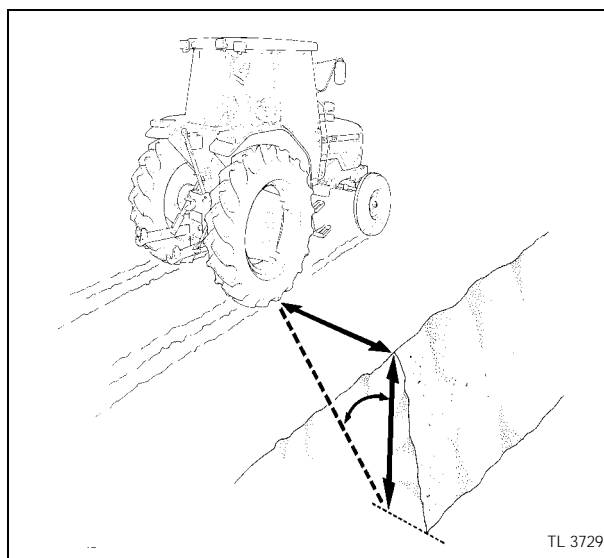

Fig. 19
- Avoid crossing steep slopes if possible. If you must do so, avoid any holes or depressions on the downhill side. Avoid any stumps, rocks, bumps or raised areas on the uphill side. When operating near ditches and banks, always keep your tractor behind the shear line (A, Fig. 19). Avoid ditches, embankments and river-banks which might cave in.